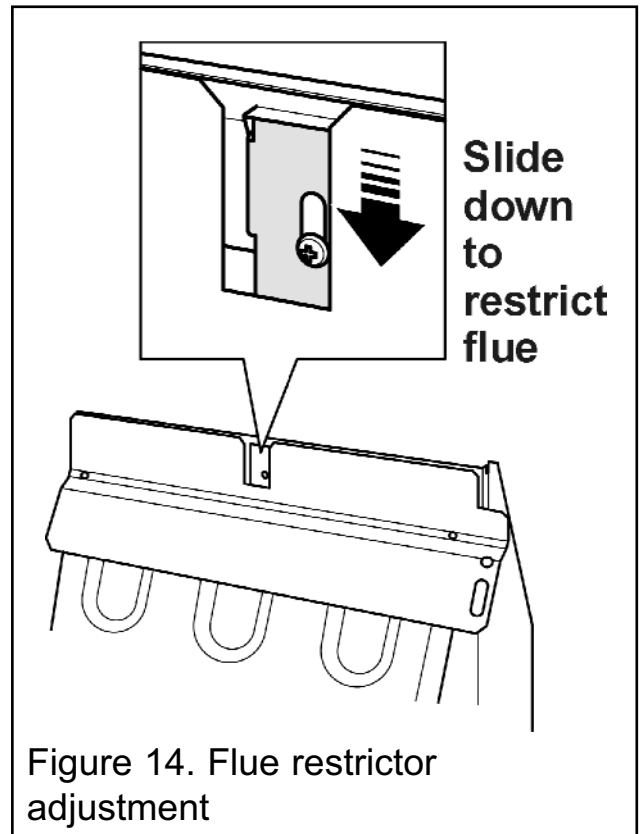

Figure 14. Flue restrictor adjustment
(See figure 14).
1. Loosen the screw situated behind the cut-out in the black upper heat shield. Do not fully remove the screw (See figure 14).